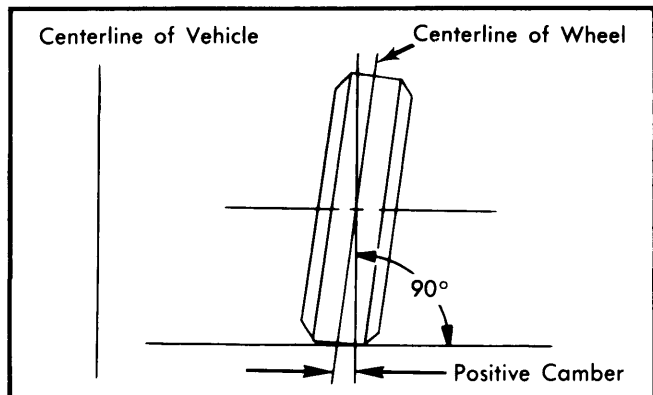

Fig. 3 Determining Camber Angle
1) Camber is the tilting of the wheel, outward at either top or bottom, as viewed from the front of vehicle. See Fig. 3.